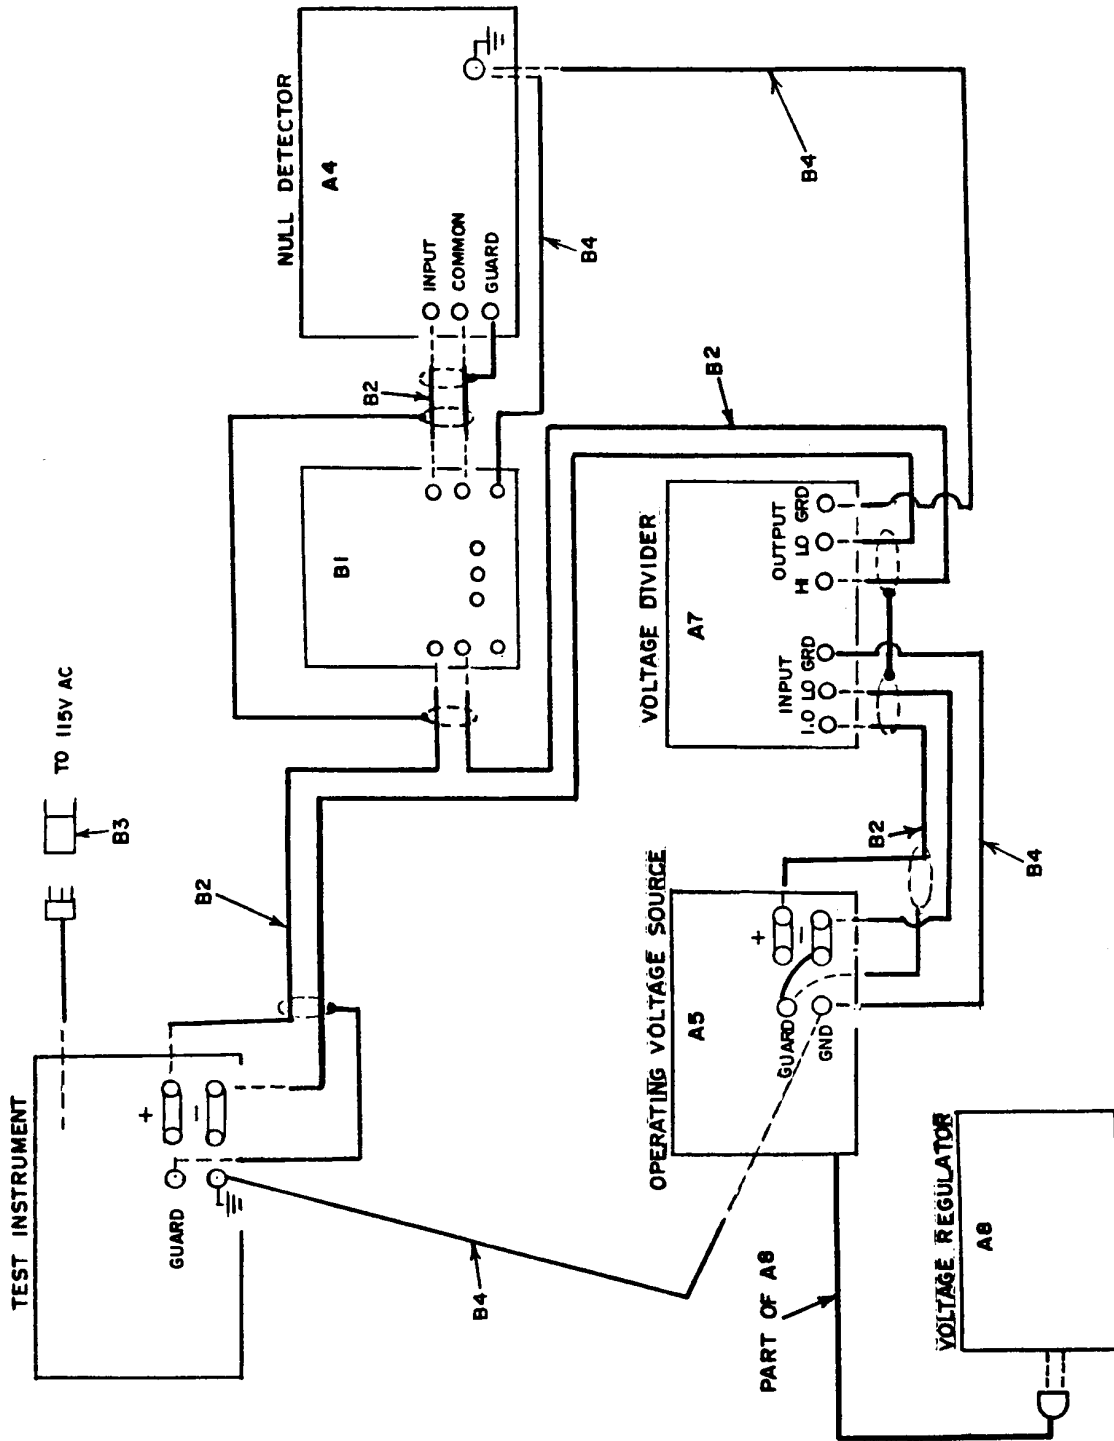

Figure 4. High voltage - equipment setup.
(20) If TI voltage dials do not indicate between 99.99698 and 100.00302, perform **b(4)** and (5) below.
(21) If TI voltage dials are within tolerance but not exactly 100.00000, perform **b(6)** below:
(22) Set TI POWER switch to STANDBY/RESET.
(23) Connect equipment as shown in figure 4.
(24) Set voltage divider to .1000000.
(25) Set operating voltage source (A5) VOLTAGE RANGE switch to 1000 and voltage dials to 1000.0000.
(26) Set TI and operating voltage source POWER switches to ON.
(27) Adjust operating voltage source voltage dials for a null indication on null detector.
(28) Set TI and operating voltage source POWER switches to STANDBY/RESET.
(29) Set voltage divider to .999999X.
(30) Set TI VOLTAGE RANGE switch to 1000 and voltage dials to 1000.0000.
(31) Set TI and operating voltage source POWER switches to ON.
(32) Adjust TI voltage dials for a null indication on null detector.
(33) If TI voltage dials do not indicate between 999.9699 and 1000.0300, perform **b(1)** and (8) below.